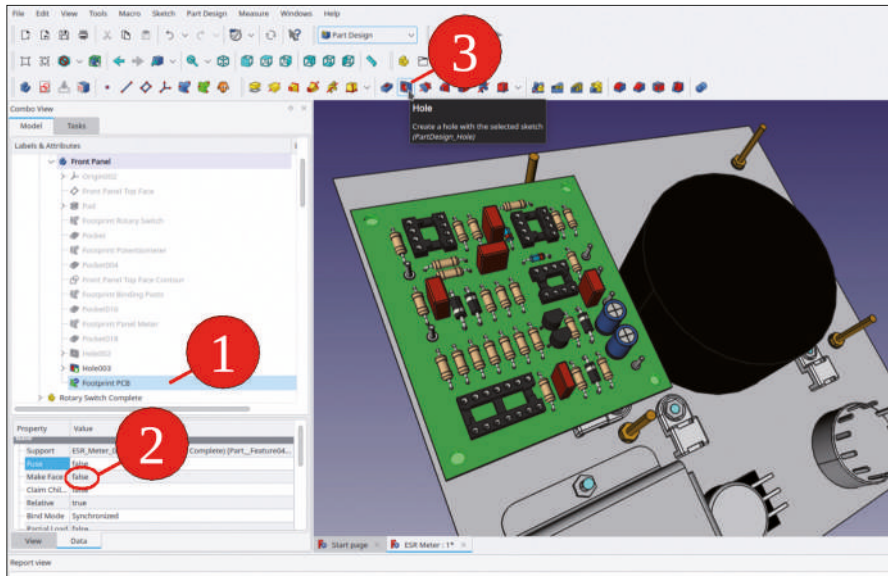

Figure 7-63
7. The tree view will jump away from the destination object and expose the node of the last item which was marked in the 3D view. Scroll up to locate the new SubShapeBinder in the 'Front Panel' body. Rename it to 'Footprint PCB' and set its 'Make face' property to 'false' (Figure 7-63). Then, click the 'Hole' tool button.